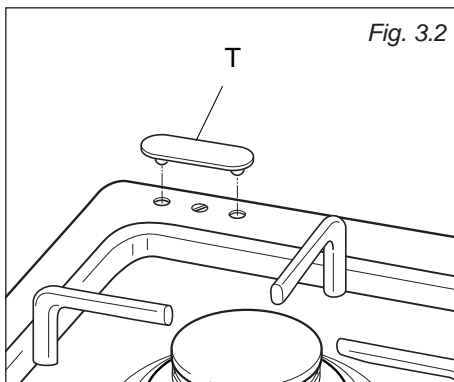

Fig. 3.2
1. Remove gently the 2 hole-cover plates (**T**) from the rear edge of the cooking hob, being careful not to chip the enamel (fig. 3.2).